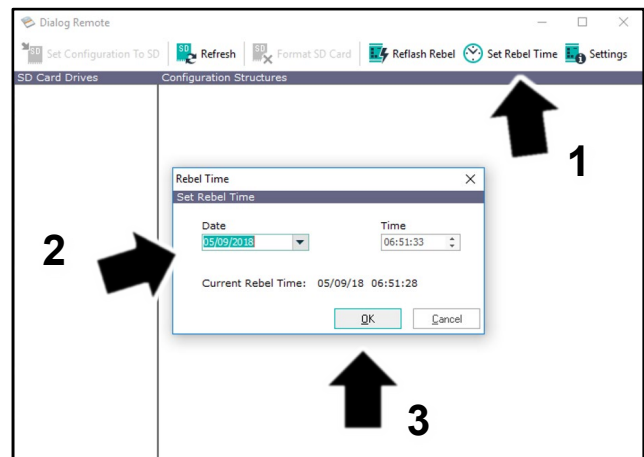

Figure 2
2. Open "Dialog Remote" (refer to Figure 2).